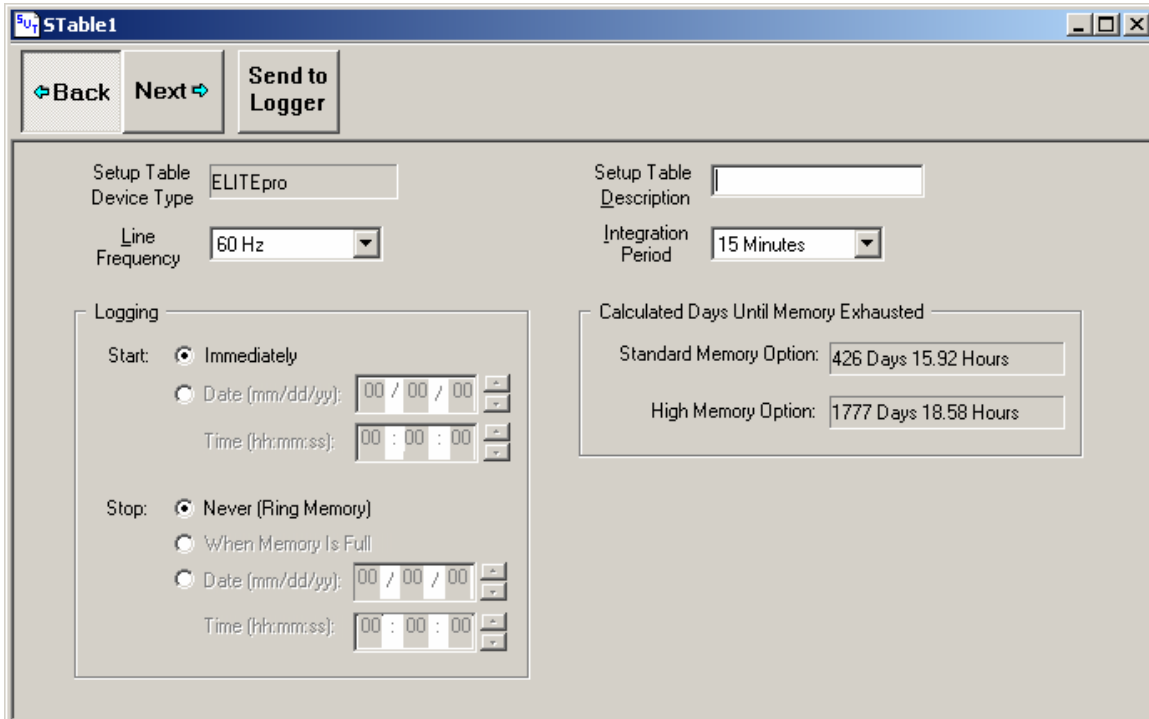

Figure 2 The first logger setup window.
3. **Enter a Setup Table Description.** (figure 2) This is an optional reference name for this particular setup table that can be saved and used in the future to avoid having to re-enter the same information.
4. **Set the *Line Frequency* (figure 2) to 60Hz.** (U.S. standard frequency)
5. **Configure the logging start time (figure 2).**
6. **Configure the Logging stop time (figure 2).**
7. **Select an Integration Period for the study** (*figure 2*). The Integration Period indicates how often a time-stamped data record will be stored into memory.
8. **Verify the amount of available memory for the study** (*figure 2*). Refer to the *Standard Memory Option* for standard Elites and the *High Memory Option* for Elites with extended memory (indicated by the label on the front of the logger). *Note that the amount of memory available will change depending on how the channels are set up on the next page of the setup table.